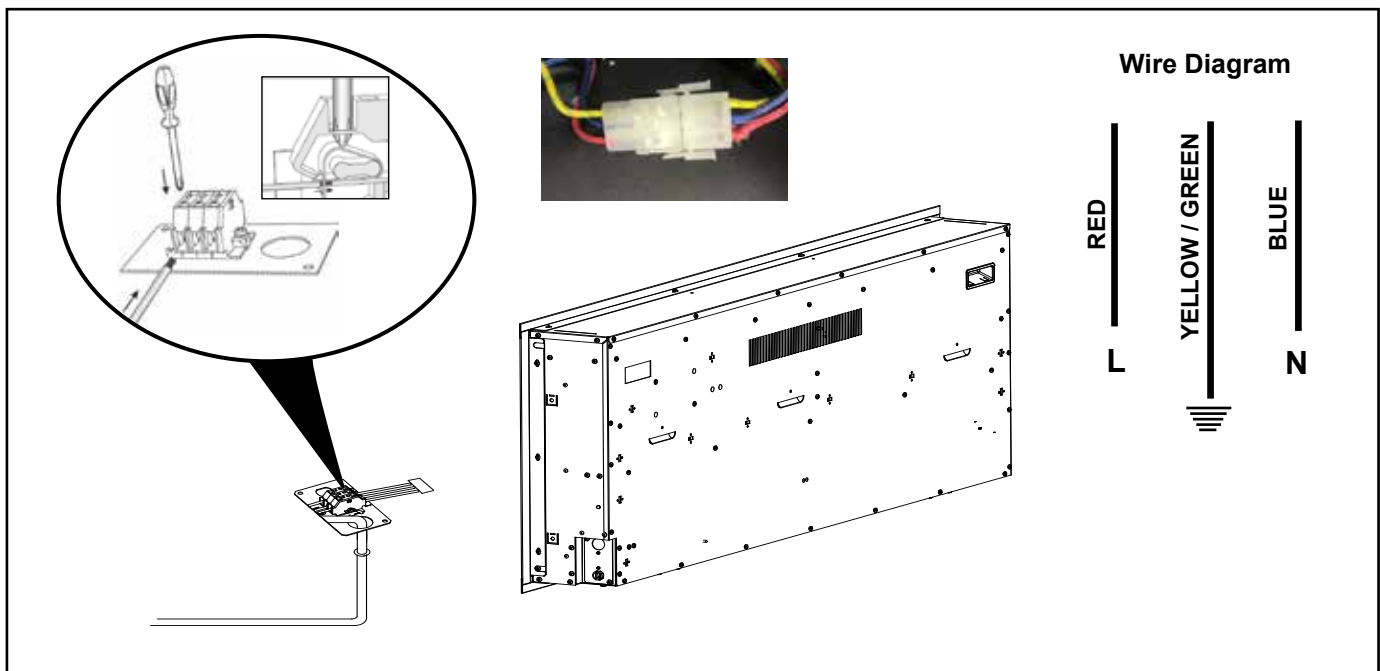

Figure 4.5 Hard-Wired Installation
3. Terminate type NM-B wire to the terminal block, ensure connections are secure, and tighten the strain relief. Use 3/32 slotted heat screwdriver, or equivalent, to depress the spring loaded terminals for the conductors. See Figure 4.5.